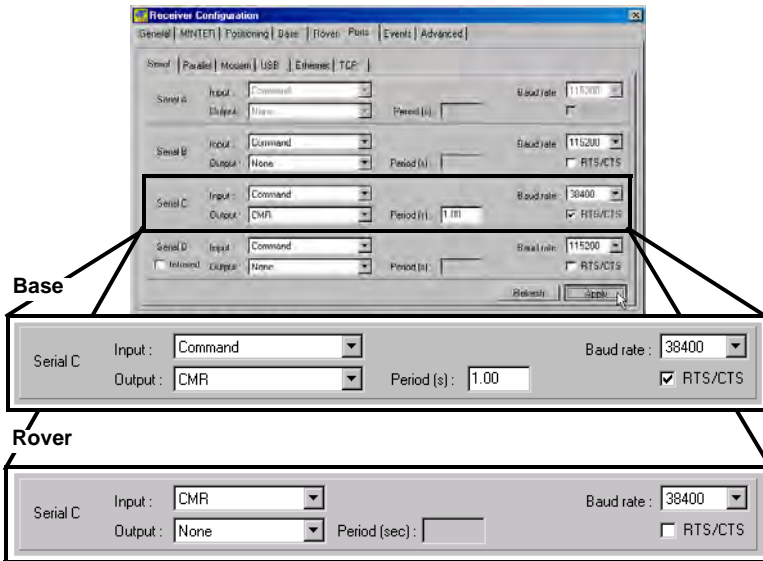

Figure 3-37. Base and Rover Configuration for RTK Surveys – Ports
12. Click the *Advanced* tab and then the *Multipath* tab. Set the following parameters and click **Apply** (Figure 3-37 on page 3-40).